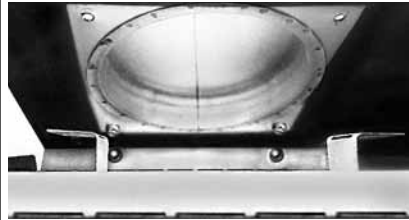
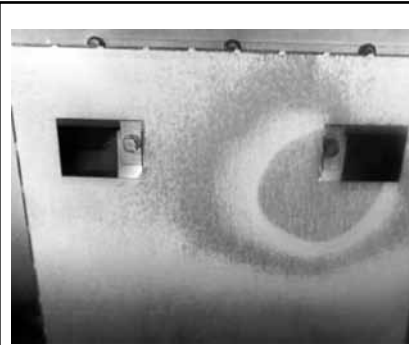

Figure 22
Figure 23
3. Bend the **top vent flue restrictor** FORWARD and UP (Figure 22), and secure with the other 2 previously removed screws (Figure 23).